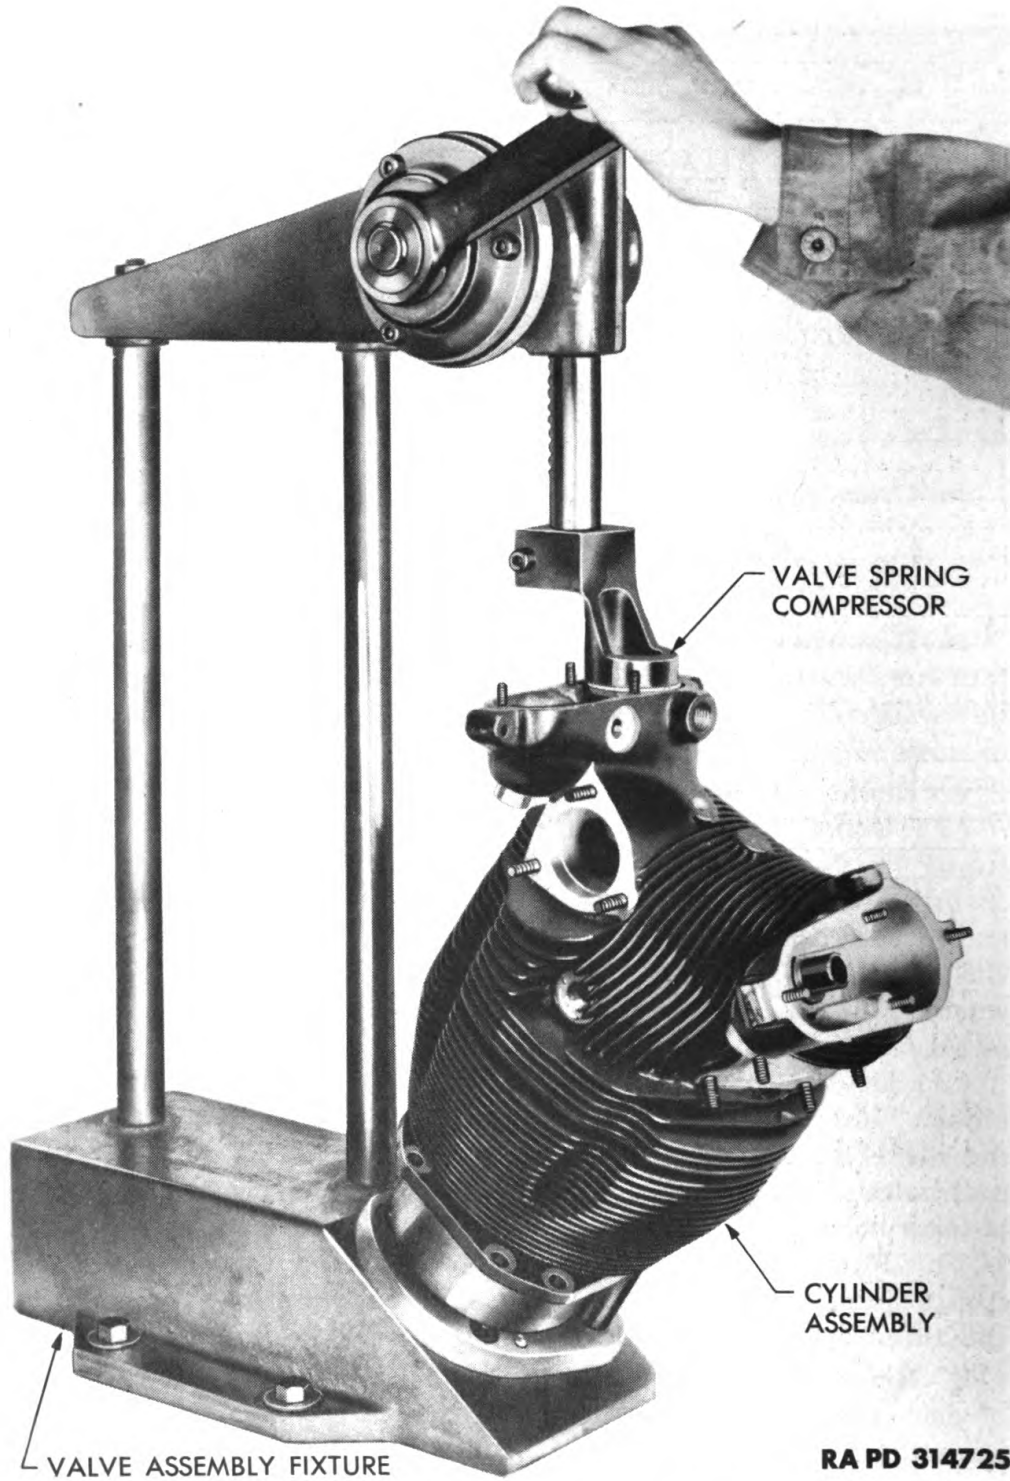

Figure 100 — Compressing Valve Spring in Valve Assembly Fixture
(1) **USING FIXTURE.** Place cylinder assembly over valve assembly stand (41-S-4988-77) (fig. 100). Lower fixture bar until valve springs are compressed. Remove split valve lock. Raise fixture bar and release compression on valve springs. Lift off valve spring outer washer and the three valve springs. Ordinarily, the inner valve spring washer remains in cylinder. Remove washer and springs for valve in all other cylinders in same way.